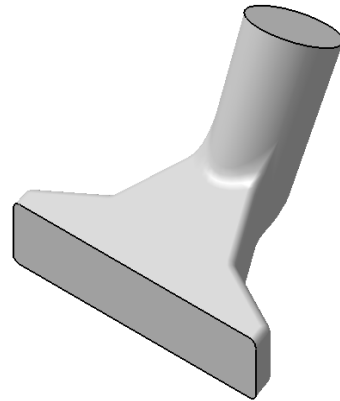

Figure 6-87 Model after creating the second fillet
5. Set the value of the **Radius** spinner to **3** and choose the **OK** button from the **Edge Fillet Definition** dialog box. Cancel this dialog box when it is displayed again. The model, after applying the fillet to the second set of edges, is shown in Figure 6-87.